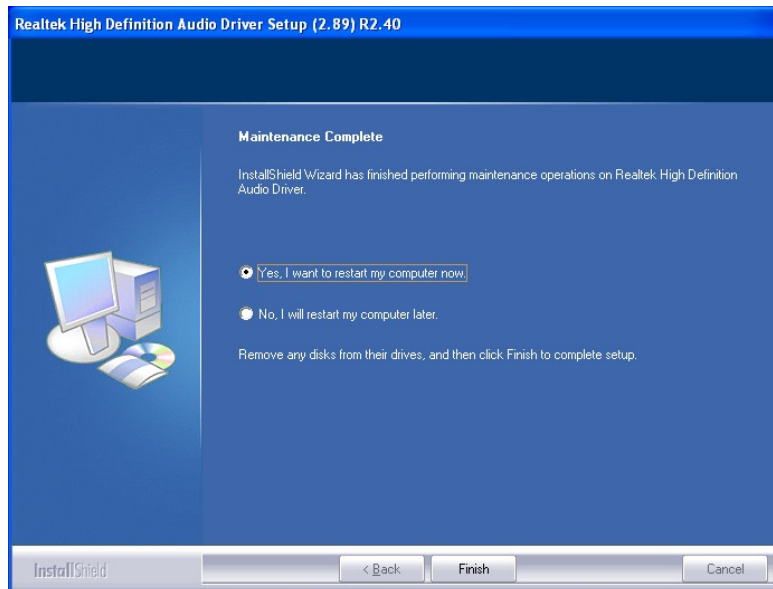

Figure 5-20: AC’97 Driver Installation Complete
Step 7: When the installation is complete, the screen in **Figure 5-20** appears.